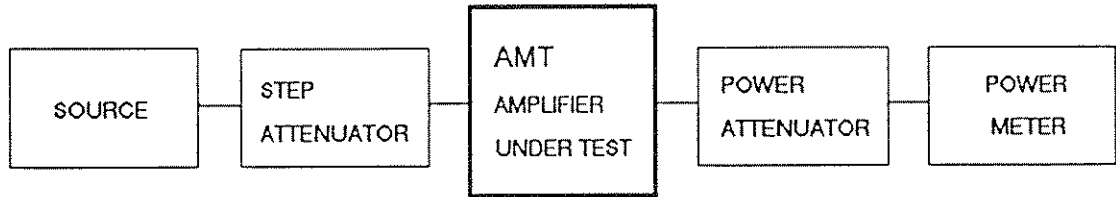

FIGURE 2-1. SETUP FOR PERFORMANCE CHECK OF AMPLIFIER
1. Connect the amplifier, attenuators, and power meter as shown in Figure 2-1.
1. Connect the amplifier shown in Figure 2-1.
NOTE: If a sweeper with leveling is not available, it is still possible to check whether or not voltage is present at the ALC connector. Operate the amplifier as shown in Figure 2-1. With the output set to full power, measure the ALC voltage with the adjustment potentiometer fully clockwise. The voltage should be greater than the rated specification (see Table 1-1).